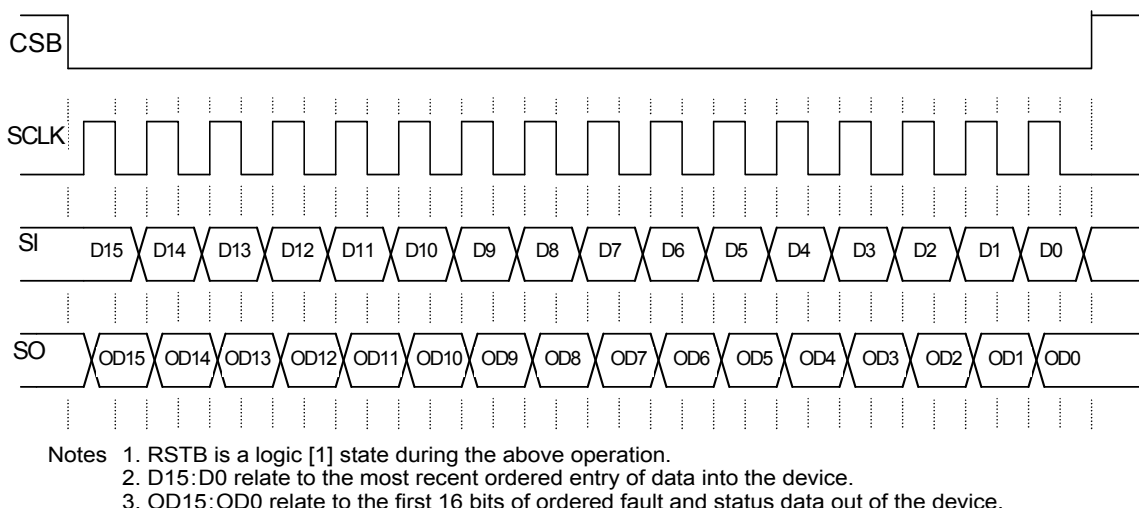

Figure 10. Single 16-Bit Word SPI Communication
The SCLK pin clocks the internal shift registers of the 10XS3425 device. The serial input (SI) pin accepts data into the input shift register on the falling edge of the SCLK signal, while the serial output (SO) pin shifts data information out of the SO line driver on the rising edge of the SCLK signal. It is important the SCLK pin be in a logic low state whenever CSB makes any transition. For this reason, it is recommended the SCLK pin be in a logic [0] whenever the device is not accessed (CSB logic [1] state). SCLK has an active internal pull-down. When CSB is logic [1], signals at the SCLK and SI pins are ignored and SO is tri-stated (high-impedance) (see Figure 10, page 29). SCLK input has an active internal pull-down, I_{DWN} .
5.2.8 Serial Input (SI)